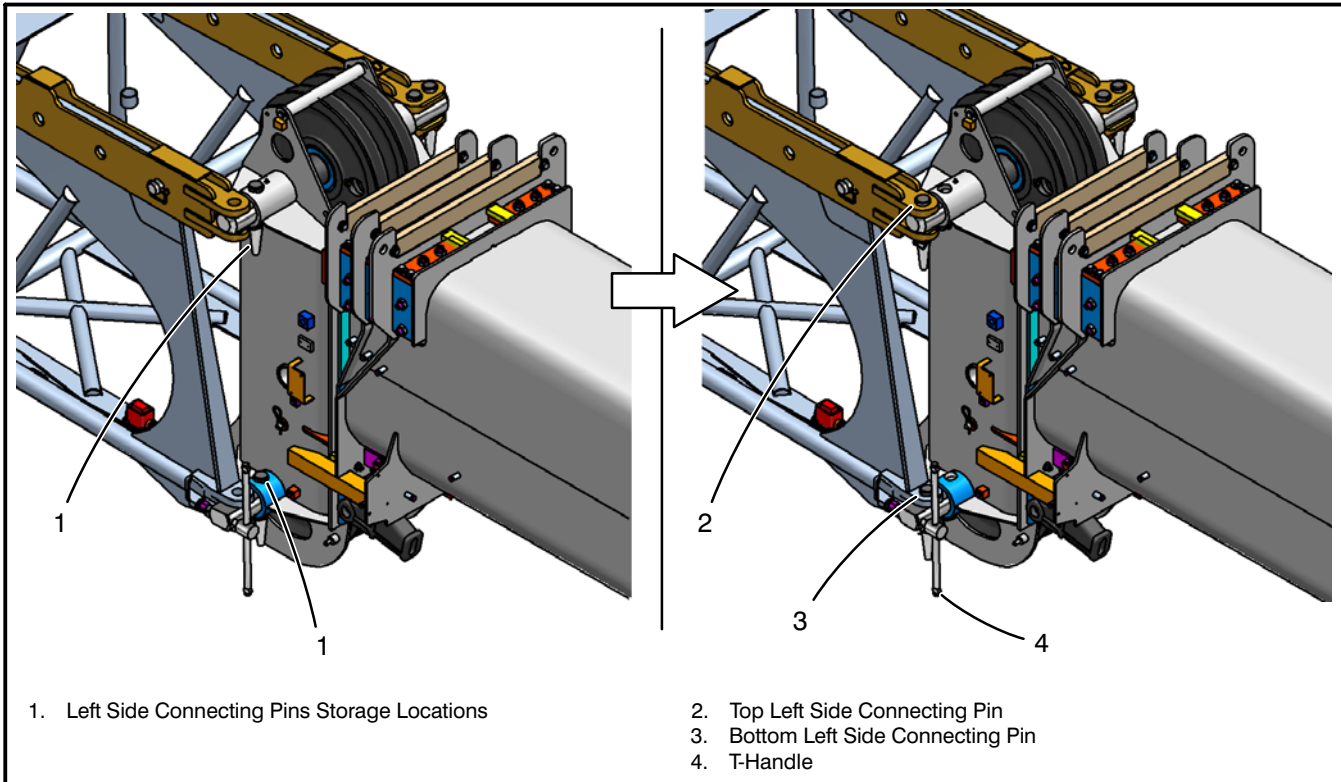

Figure 4-78
15. Remove the two fly connecting pins from the storage location (1) on the boom head machinery cross shafts on the left side of the boom. Refer to Figure 4-78. Install one pin through the top fly lug (2) on the left side of the boom. Turn the t-handle (4) to push and align the bottom left fly lug and the bottom boom head machinery cross shaft. Install the bottom left fly connecting pin (3). (Install the pins with the head on top and the keeper on the bottom.) Install the pin keepers. Back off the t-handle